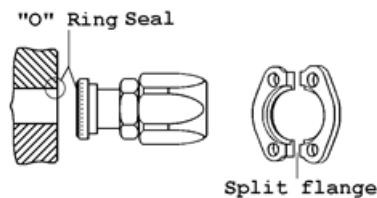

FIG 19.
v. The split flange O-ring seal. (Fig 19)